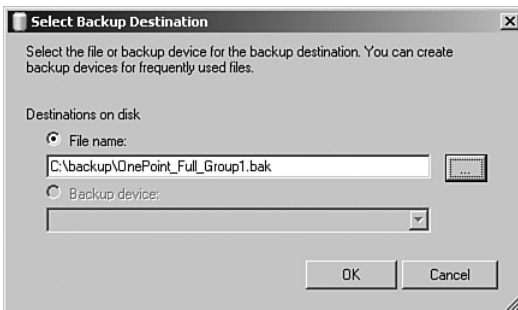

FIGURE 12.12 The Select Backup Destination screen.
4. SQL Server Management Studio next displays the Select Backup Destination screen, shown in Figure 12.12.